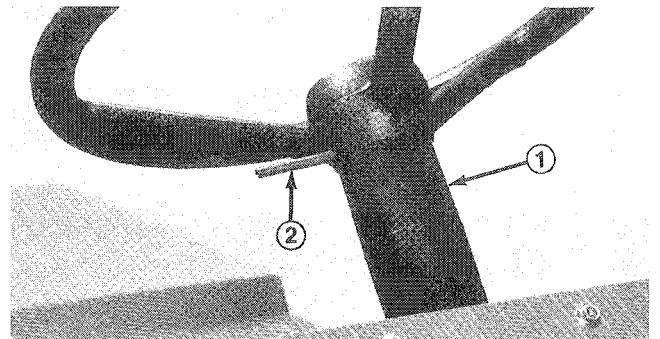

Figure 5
3. Secure steering wheel in place with roll pin (Fig. 5).